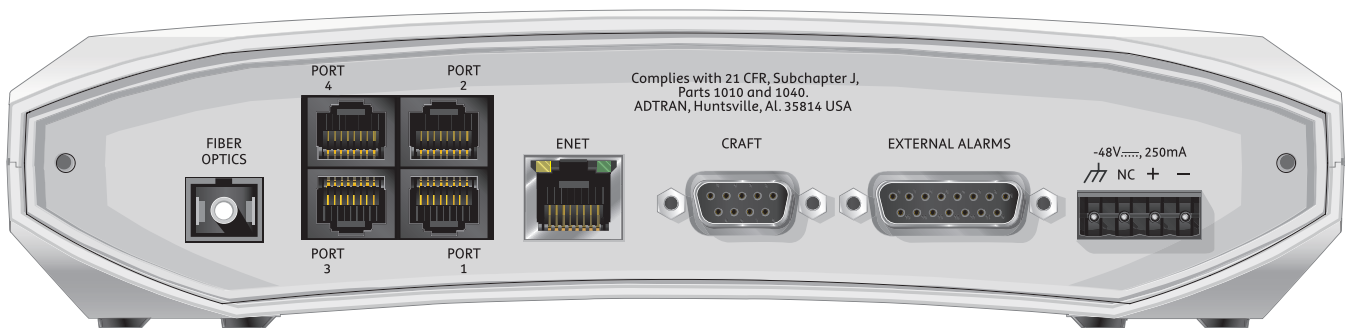

Figure 2. NTU-8F Rear Panel
2. Connect power to the NTU-8F housing. Power is connected to the NTU-8F by connecting the plus (+), minus (-), and ground wires to a three-position terminal block located at the right of the backplane (see Figure 2).